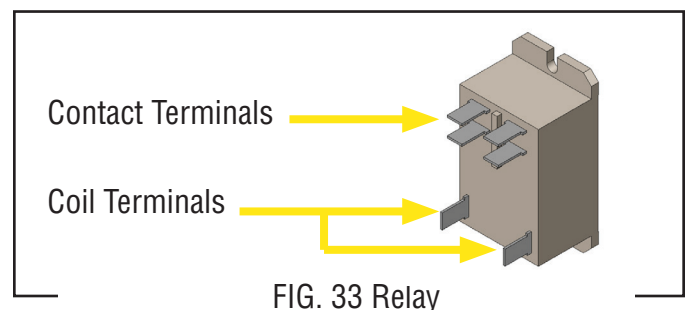

FIG. 33 Relay
8. Check relay coil for 24VDC during “Compressor” test. See FIG. 33.
10. Next, adjust meter to read continuity. Place leads across relay contact/terminals. Must read no continuity until you turn On “Compressor” outlined in steps 1 thru 7. See. FIG 33.